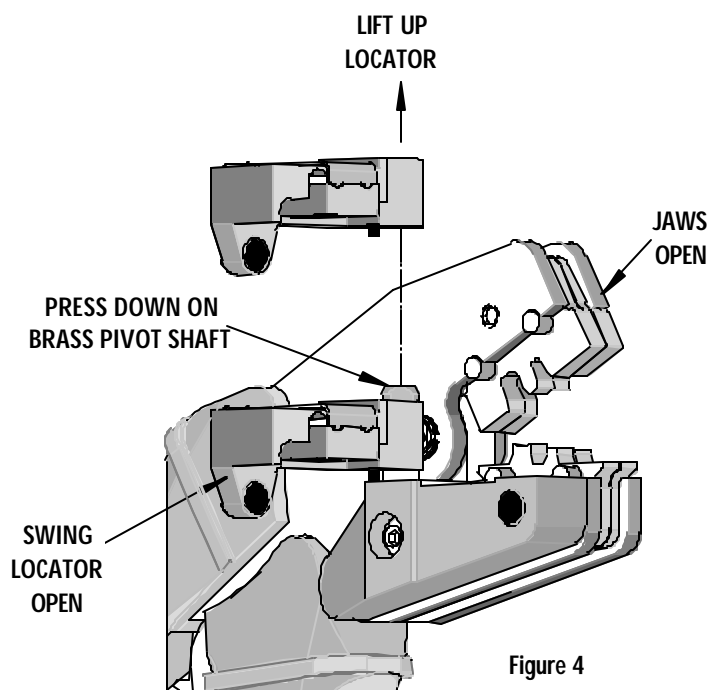

Figure 4
3. Firmly press down on the brass pivot shaft with your thumb, while pulling the locator up. Slip the locator off the top of the brass pivot shaft. See Figure 4.